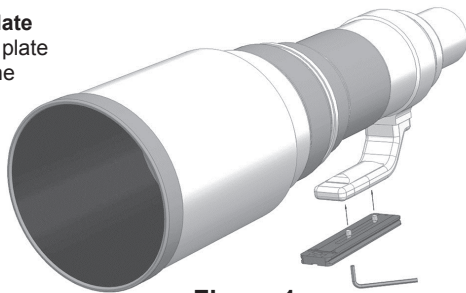

Figure 1
5. Use the enclosed 5/32 hex key to attach and remove the lens plate to the foot of your lens (Fig. 1). Our fasteners are specially machined at the top to allow them to slide freely within the center slot. **Important Note:** when removing the plate, loosen screws gradually while gently pulling the plate flush against the screw caps to prevent binding of the screw threads in the center slot of the plate.